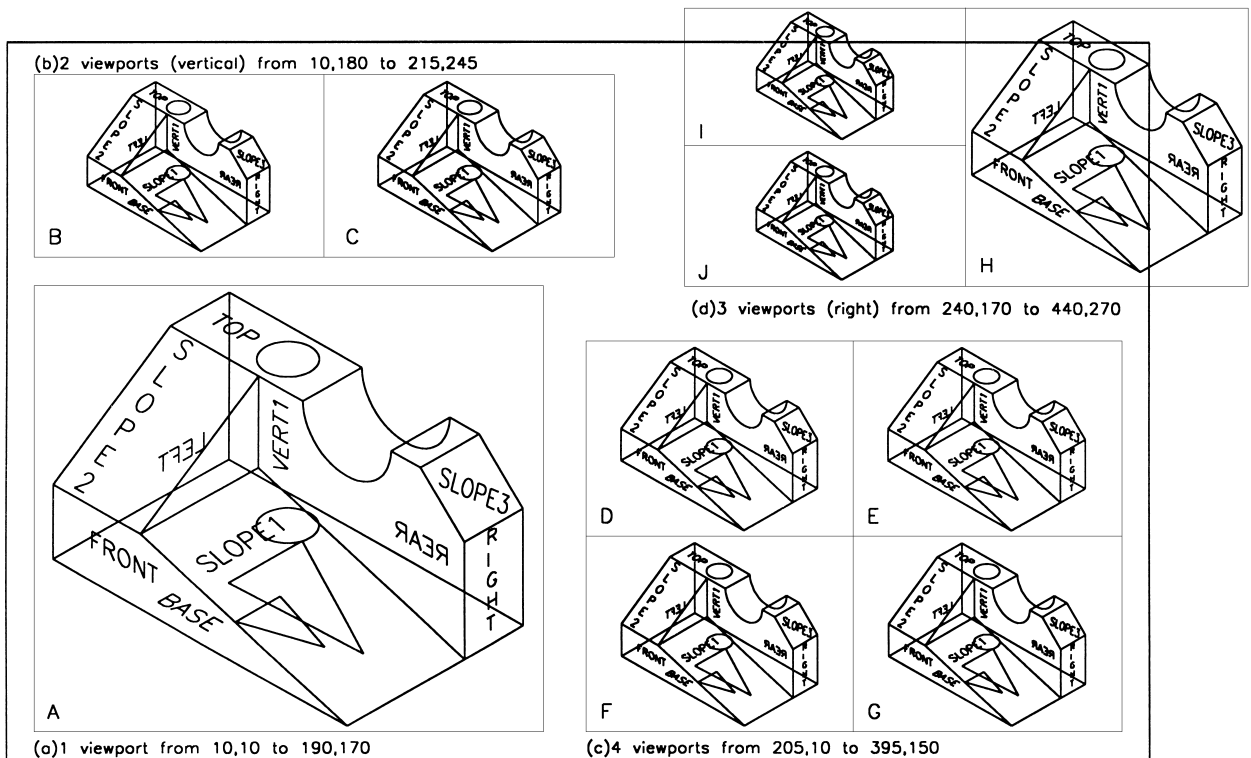

Figure 11.2 Creating the paper space multiple viewport layout with 3DWF.M.
- e) refer to Fig. 11.2
- 16 At this stage the layout is as Fig. 11.2